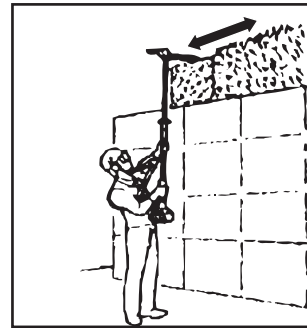

Fig. 15
12. Move the product with slow motion forward when cutting higher hedge and the cutting area out of sight (Fig. 15).